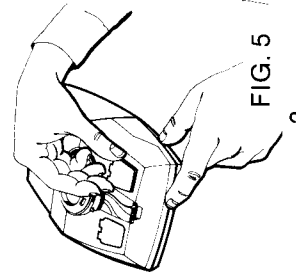

FIG. 5
3. Grasp the sides of the inserts and lift straight out as shown in Fig. 5.